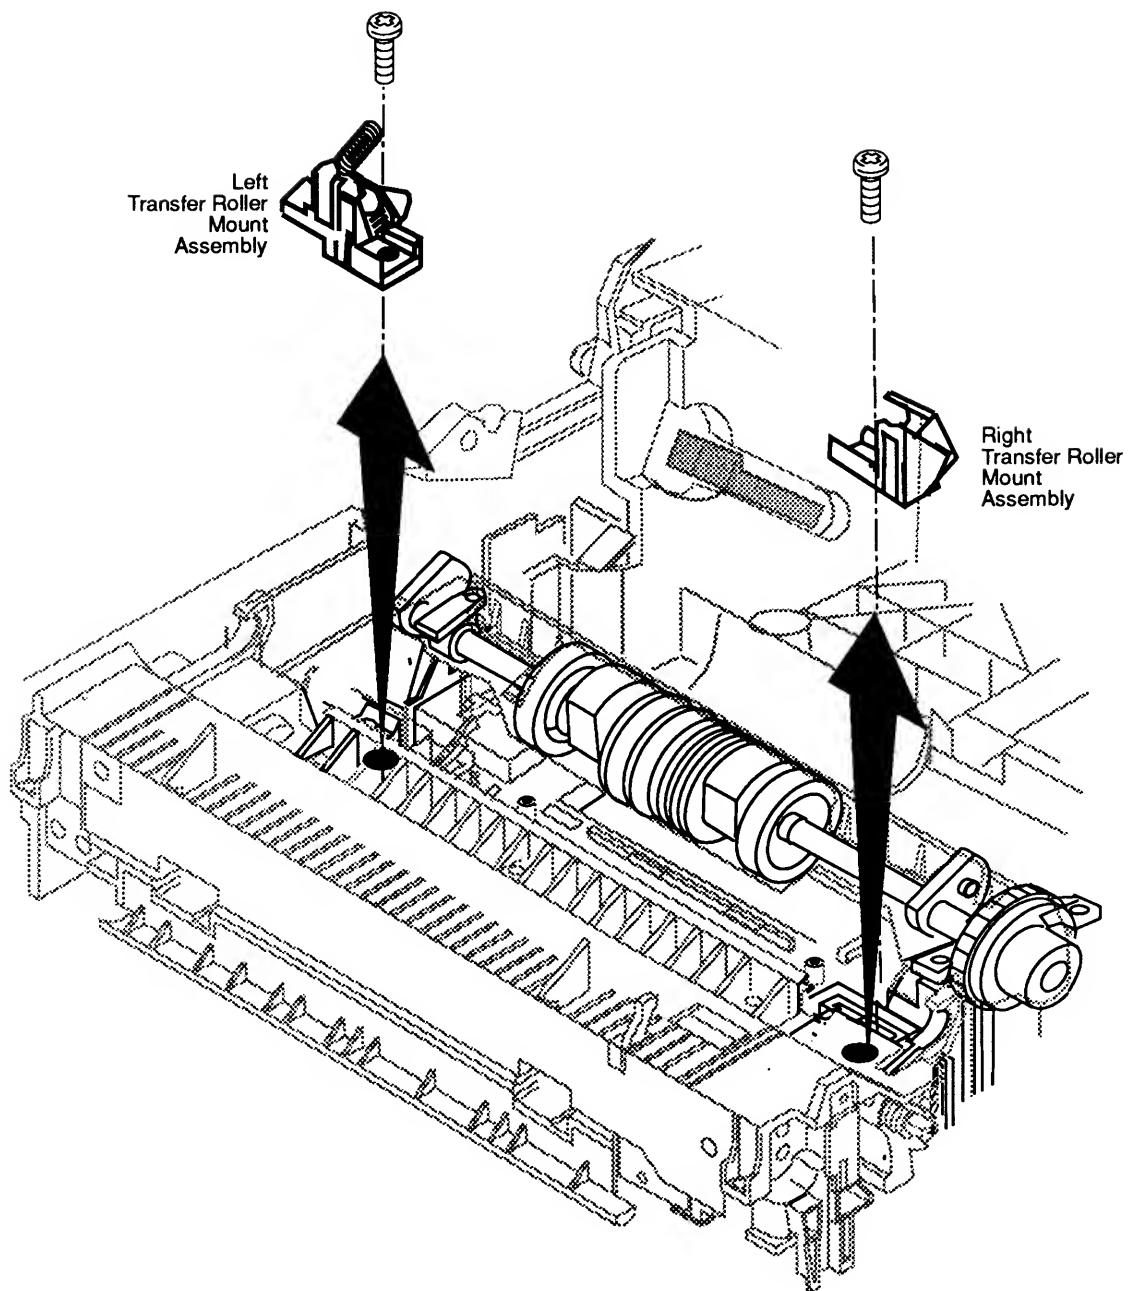

Figure 2-50 Left and Right Transfer Roller Mount Assemblies
2. Remove the single screw that secures the left transfer roller mount assembly to the front access door (**Figure 2-50**).
3. Lift the left transfer roller mount assembly out of the printer (**Figure 2-50**).
4. Remove the single screw that secures the right transfer roller mount assembly to the front access door (**Figure 2-50**).
5. Lift the right transfer roller mount assembly out of the printer (**Figure 2-50**).